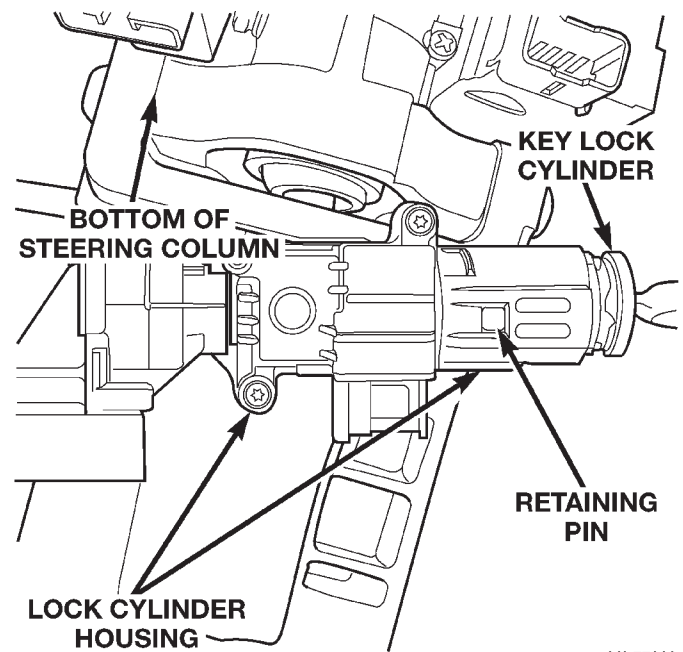

Fig. 37 Retaining Pin
- (1) Disconnect negative cable from battery.
- (2) Place transmission shifter in PARK position.
- (3) Place tilt steering wheel in full up position.
- (4) A retaining pin (Fig. 37) is located at bottom of key lock cylinder housing.
- (5) Rotate key to RUN position.
- (6) Press in on retaining pin while pulling key cylinder from housing. After removal, note position of alignment tang at end of cylinder. When installing lock cylinder, key must be rotated back to RUN position.
- (7) Remove steering column lower opening cover. Refer to Steering Column Opening Cover in Group 8E, Instrument Panel.